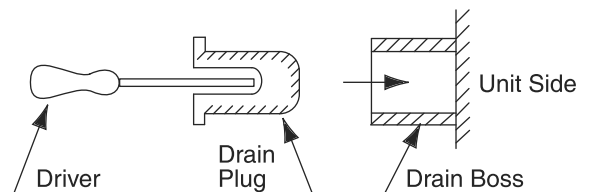

Fig. 6.3 Inserting Drain Plug
- Insert the drain plug into the right-side drain boss by using a driver as shown in Fig. 6.3.